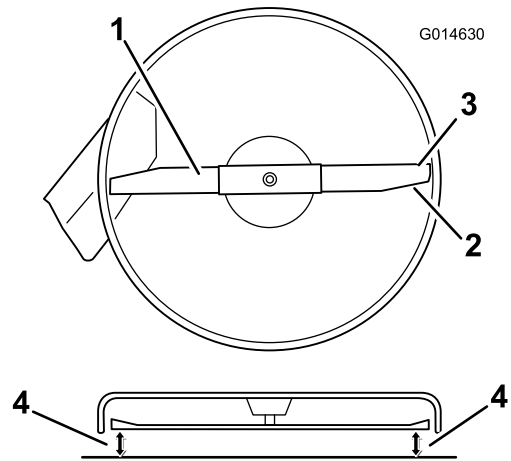

Figure 51
4. Carefully rotate the blade so that it is side to side (Figure 51).
5. Measure between the outside cutting edges and the flat surface (Figure 51).